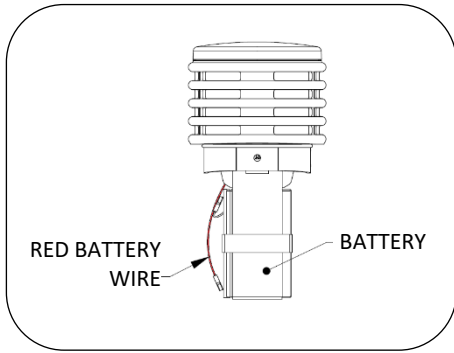

FIG.2 - BATTERY CONNECTION
3. If replacing the battery only, remove old battery by disconnecting wires. Connect red battery wire to red (positive) battery terminal, see Fig. 2. Use provided die-electric grease on battery terminals to help prevent corrosion. For full solar cap replacement, battery ships connected. Exposing solar panel to sunlight will activate the unit.